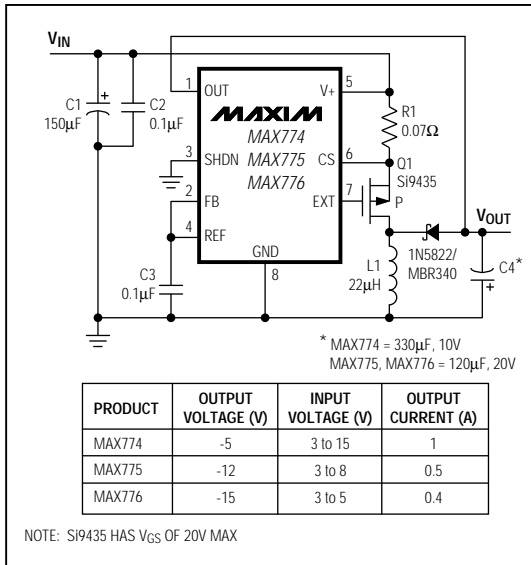
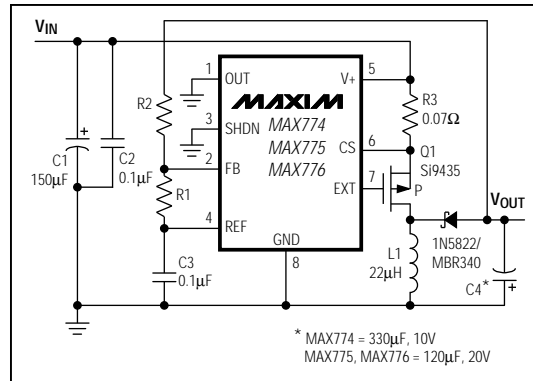

Figure 2. Bootstrapped Connection Using Fixed Output Voltages
Figure 4. Non-Bootstrapped Operation ($V_{IN} > 4.5V$)
CIRCUIT OF FIGURE 2
With PFM converters, the output voltage ripple is not concentrated at the oscillator frequency (as it is with PWM converters). So for applications where the ripple frequency is important, the PWM control scheme must be used. However, for many other applications, the smaller capacitors and lower supply current of the PFM control scheme make it the better choice. The output voltage ripple with the MAX774/MAX775/MAX776 can be held quite low. For example, using the circuit of Figure 2, only 100mV of output ripple is produced when generating a -5V at 1A output from a +5V input.
Figures 2 and 3 are the standard application circuits for bootstrapped mode, and Figure 4 is the circuit for non-bootstrapped mode. Since EXT is powered by OUT,
Where L is in μH, 0.3μs is an ample time for the comparator response, I_{LIM} is the current limit (see *Current-Sense Resistor* section), and δ(I) is the allowable percentage of overshoot. As an example, Figure 2's circuit uses a 3A peak current. If we allow a 15% overshoot and 15V is the maximum input voltage, then L(min) is 16μH. The actual value of L above this limit has minimal effect on this circuit's operation.